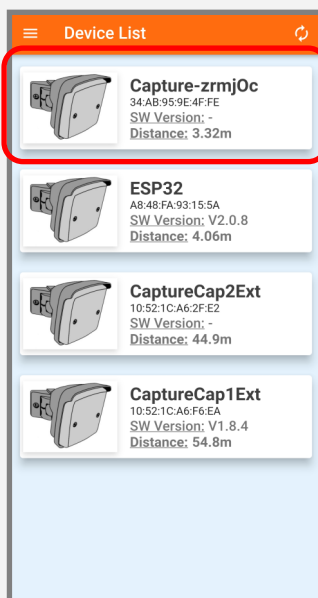

Fig 1
Select the day you want to configure and press **both** buttons to start the configuration (confirmation tone). *Fig. 1*
- 1) After opening the app, select your device from the list. Fig 1